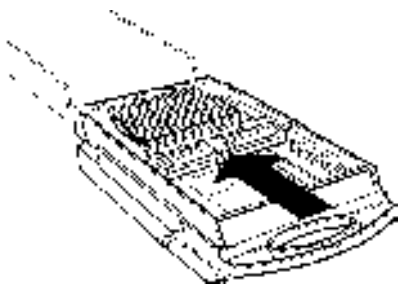

Figure 4-12. Move the pusher plate toward the currency so it holds the currency in the correct position.
2. Refer to Figure 4-12. Move the pusher plate against the notes with just enough pressure to hold the notes in the correct position when closing the lid and inserting the cassette into the mechanism.